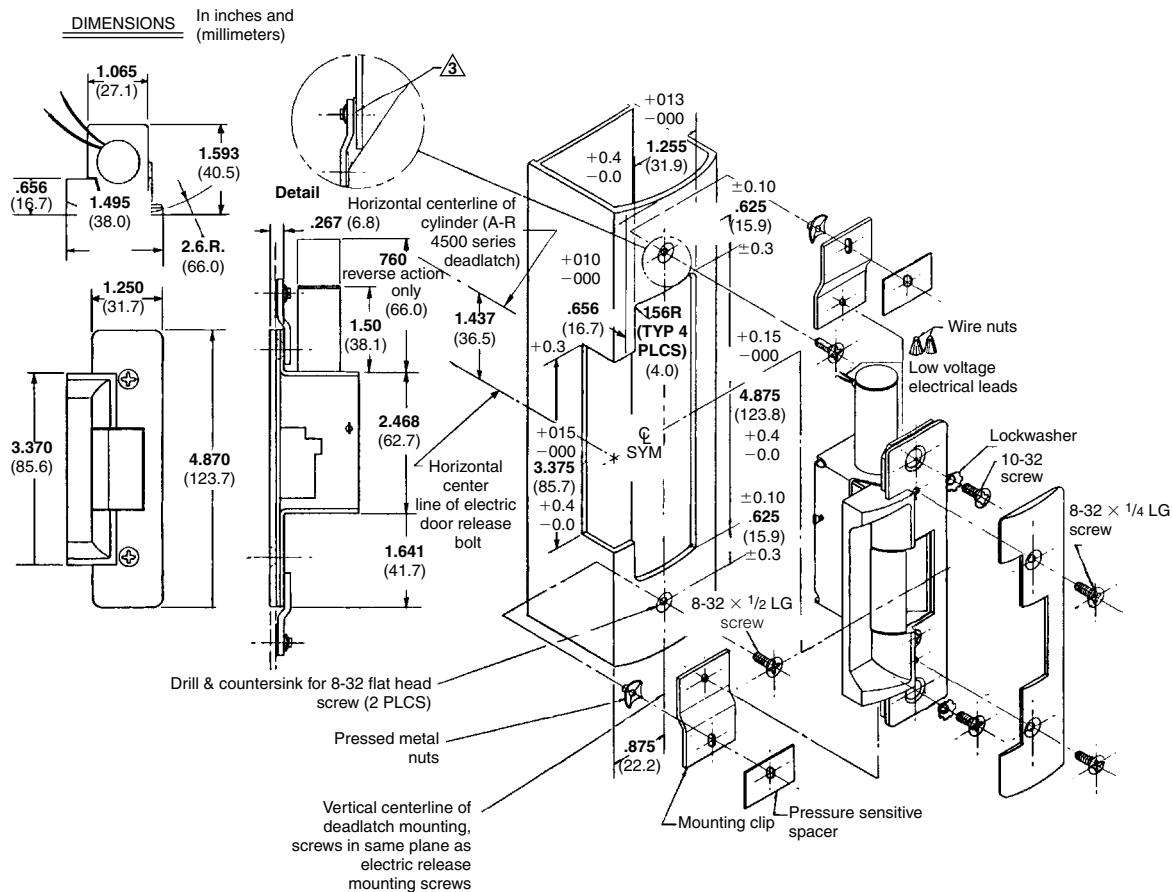

Figure 19.2 Jamb specifications and installation details for a radial (curved) aluminum door jamb. (*Adams Rite Mfg. Co.*)
1. Prepare the door jamb per Fig. 19.2.
3. Spacers are provided to assure flush final assembly of the faceplate and jamb. Add one or more spacers between the jamb and mounting clip when the faceplate extends beyond the jamb. When the faceplate sets inside the jamb, you must add spacers between the mounting clip and the electric strike case. See detail "A" in Fig. 19.2. To attach spacers to the mounting clip, remove the protective coating from the spacer and press to the desired mounting clip surface. Make sure the clearance hole in the spacer aligns properly with the hole in the mounting clip.
Figure 19.2 also shows the dimensions of the electric door release that would be installed in the aluminum jamb.